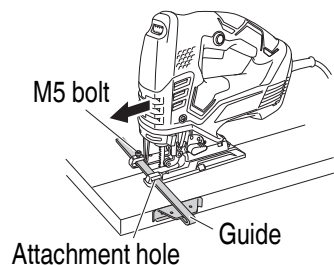

Fig. 13
- (3) Attach the guide by passing it through the attachment hole on the base and tighten the M5 bolt. (Fig. 13)
- (4) Set the orbital position to "0".
To ensure accurate cutting when using the guide (Fig. 13), always set the orbital position to "0".